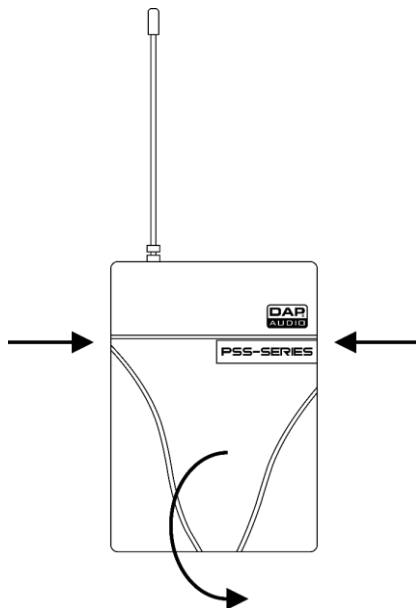
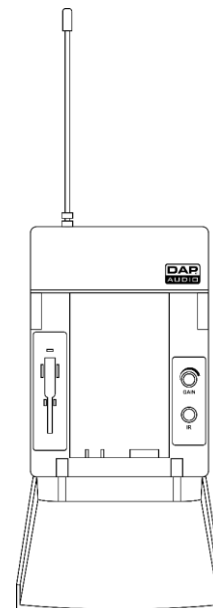

Fig. 10
Fig. 11
- 01) Press on the sides of the beltpack and open the battery cover (Fig. 10) to gain access to the battery housing (Fig. 11).